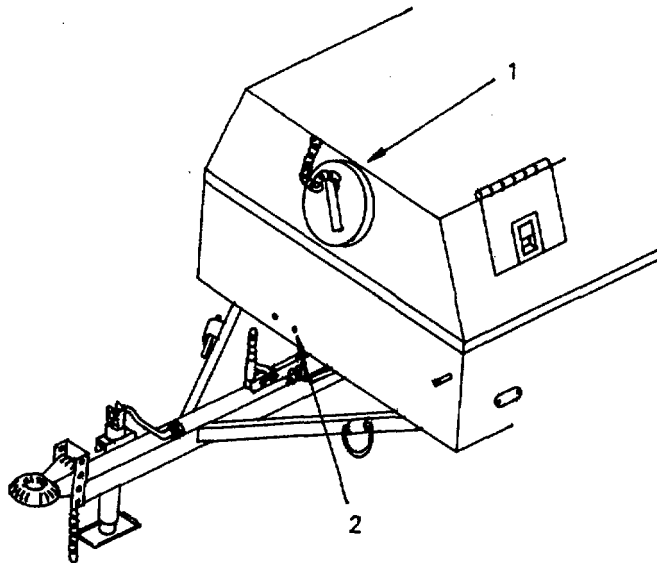

Figure 2-6. Trailer, Front View.
- b. Remove heater inlet lid (1, Figure 2-6) located in front of trailer. Push and twist counter clockwise to remove heater inlet lid. Place heater inlet lid on top of trailer while in operation. It may also be operated with either access door open without opening heater inlet lid.
If gage shows air pressure, it is important to drain all air tank receiver (2, Figure 2-6) air pressure to 0 psi allowing easy cranking and engine starting.